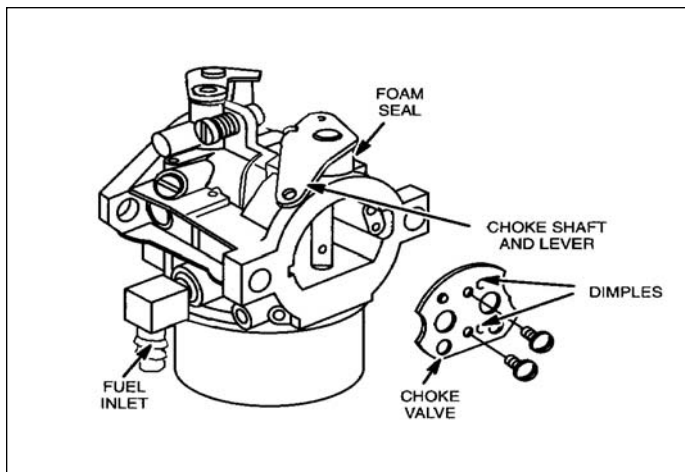

Figure 51 - Installing Metal Choke Shaft
1. Install foam seal and return spring on choke shaft hooking small hook in notch on choke lever. See Figure 51 inset.